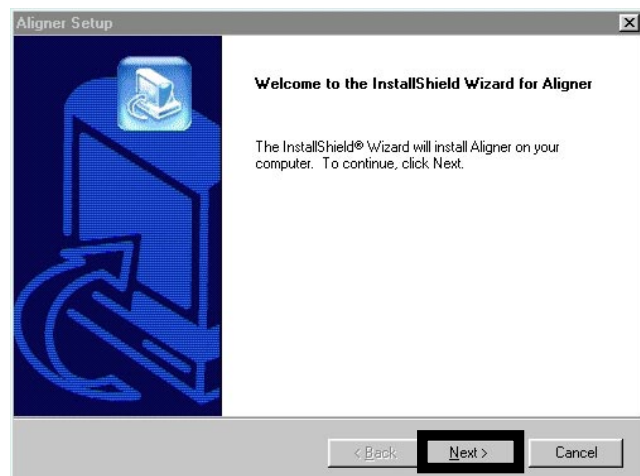

Figure 3-8
6. After rebooting, the alignment program will run and begin to load the alignment software. The install Wizard is the first screen to appear. Press <NEXT> to begin the installation. (Figure 3-8)